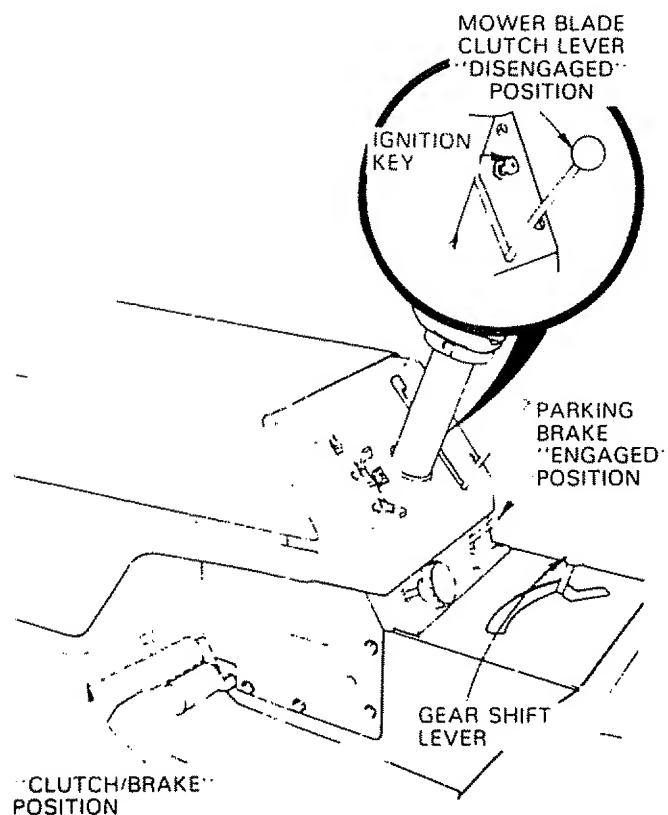

FIGURE 2
1. Turn ignition key (Fig. 2) to "OFF" position.
2. Push clutch-brake pedal completely into "BRAKE" position (Fig. 2).
3. Move gear shift lever (Fig. 2) to "Neutral" position.
4. Place parking brake (Fig. 2) in "ENGAGED" position. Raise parking brake lever and hold in "ENGAGED" position. Release clutch-brake pedal.
5. Disengage mower blade clutch lever (Fig. 2 - Inset).